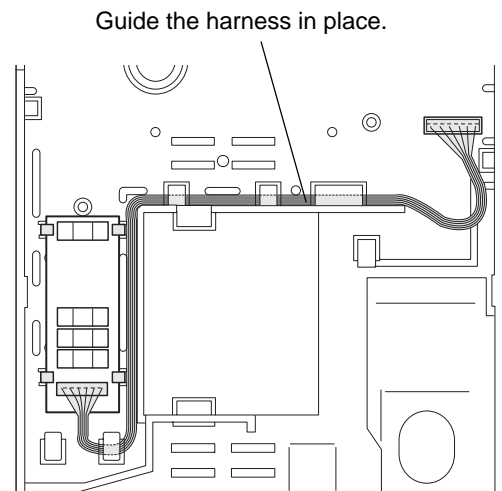

Figure 15
1. Guide the harness in place. (See the Figure 15.)